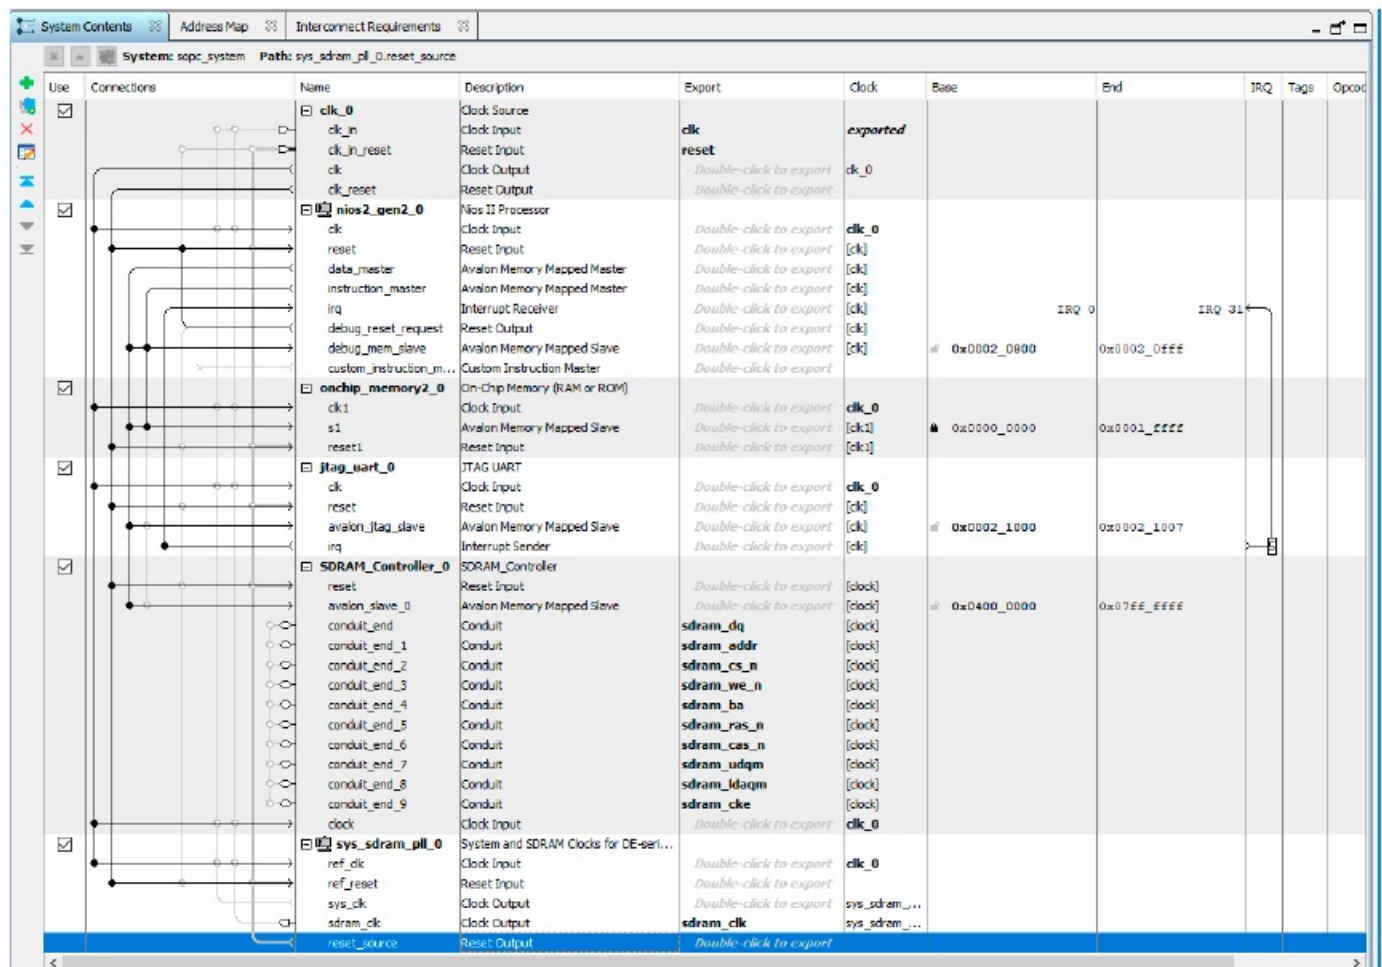

Figure 8: Component Connections, IRQ and Export
10. In the Connection column, make the necessary connections by clicking on the appropriate empty circles to change them to solid circles (Figure 8).
12. In the Export column, export the "sdrn.clk" signal of the pll component (Figure 8).